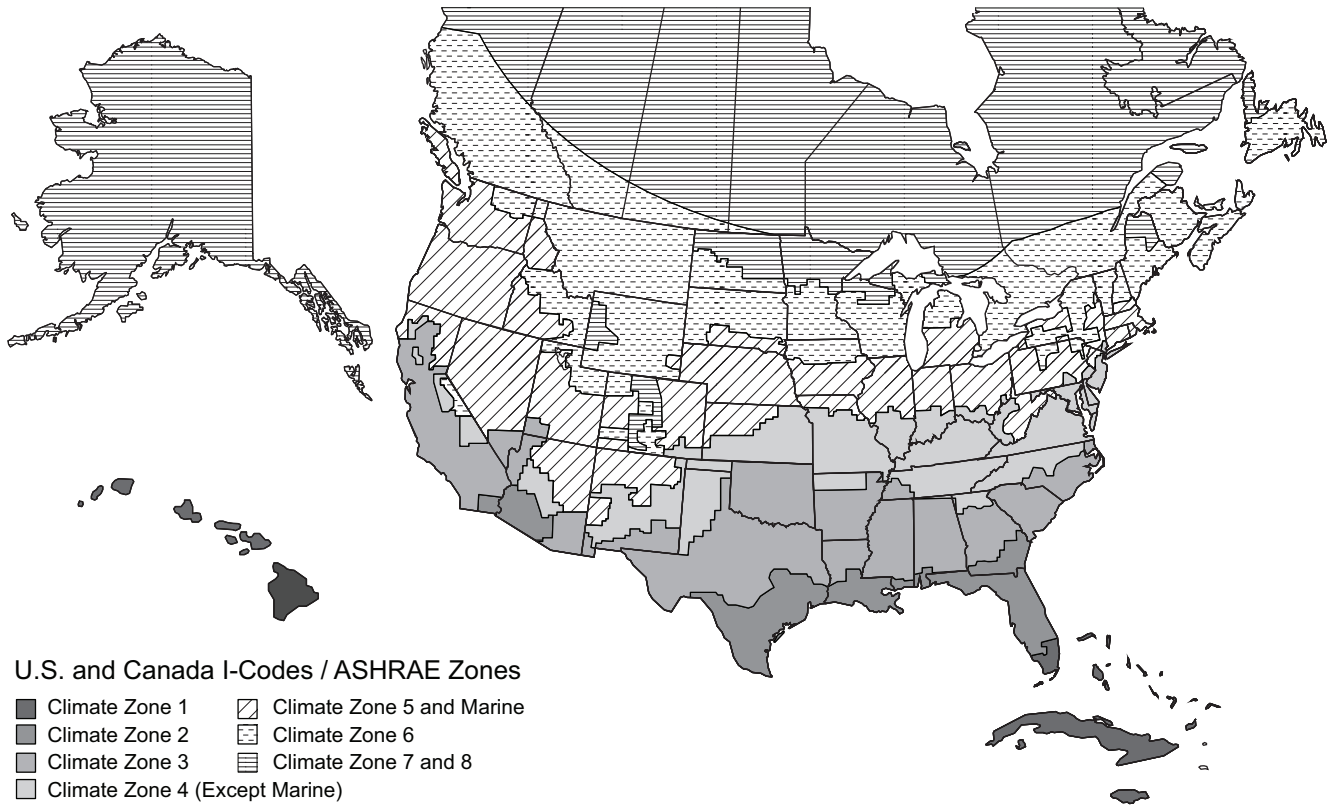

Fig. 90 — U.S. and Canada Climate Zones
- a. See Fig. 90 for map of U.S. and Canada climate zones.